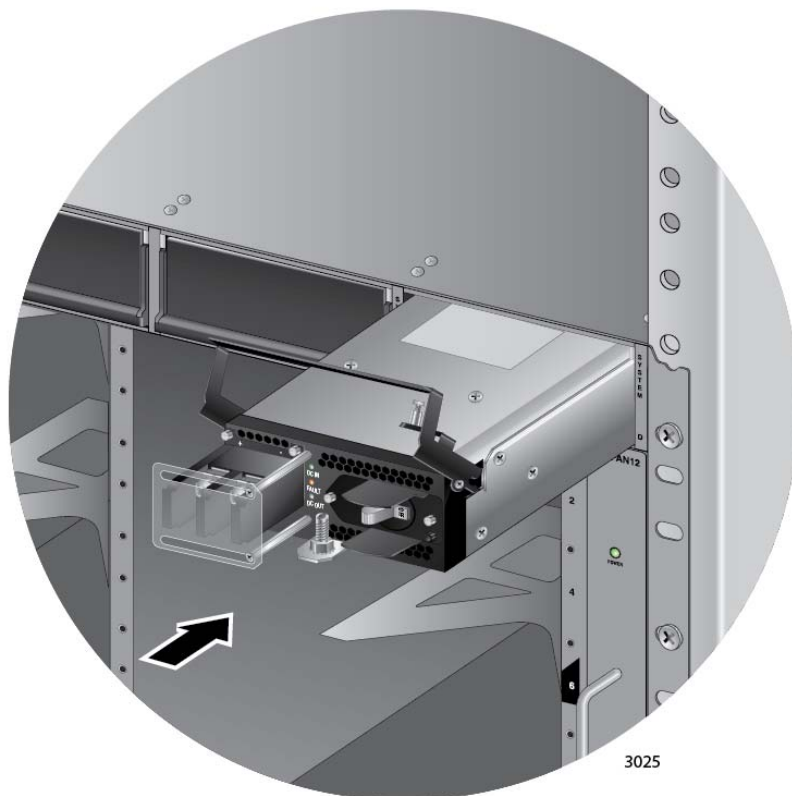

Figure 55. Inserting the AT-SBxPWRSYS1 DC System Power Supply
7. Align and insert the AT-SBxPWRSYS1 Module into slot C or D. Figure 55 shows the power supply installed in slot D.